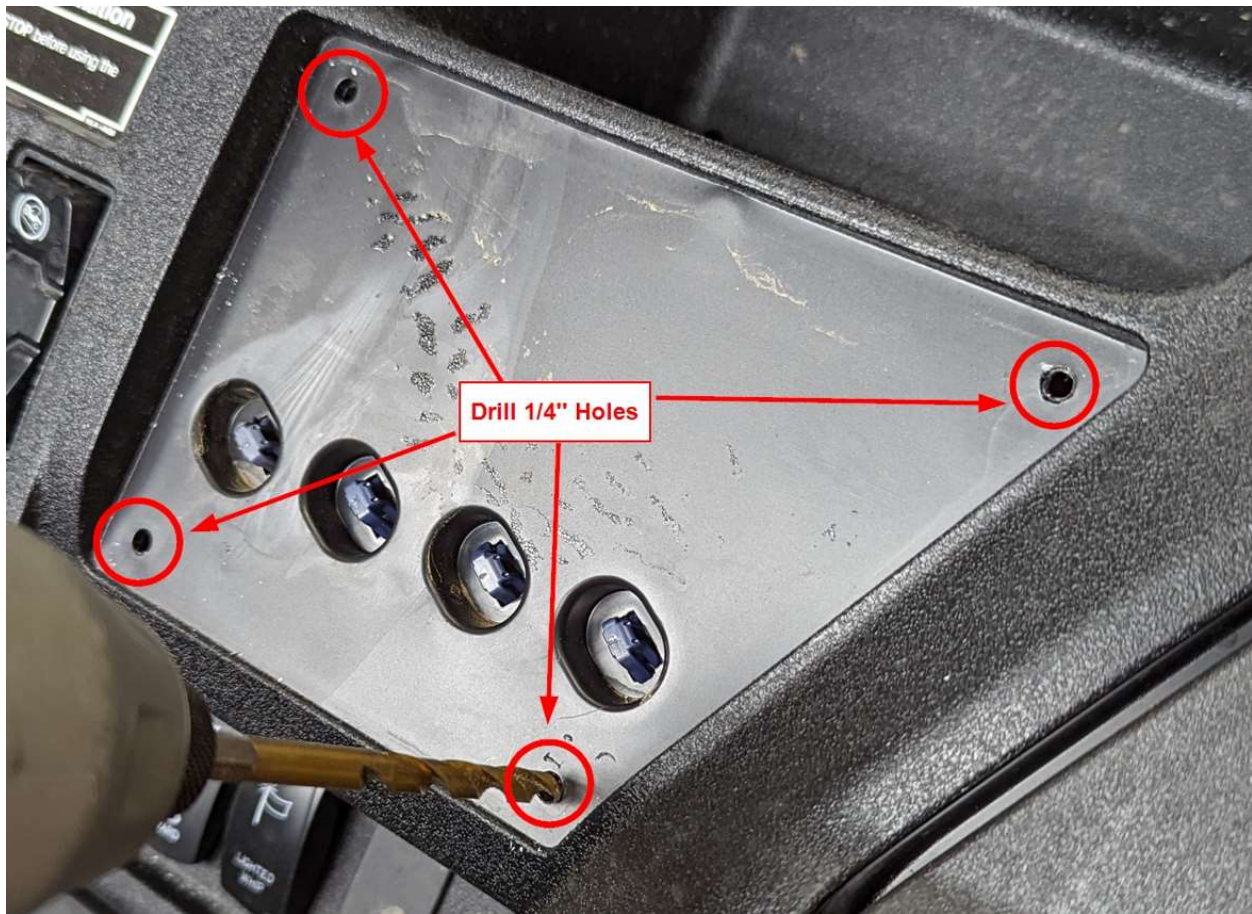

Figure 7
- a. Use a drill bit to remove the pop rivets that secure the center dash warning panel in place as shown in Figure 6. Remove the warning label. Drill the pop rivet holes with a ¼" drill bit as shown in Figure 7.